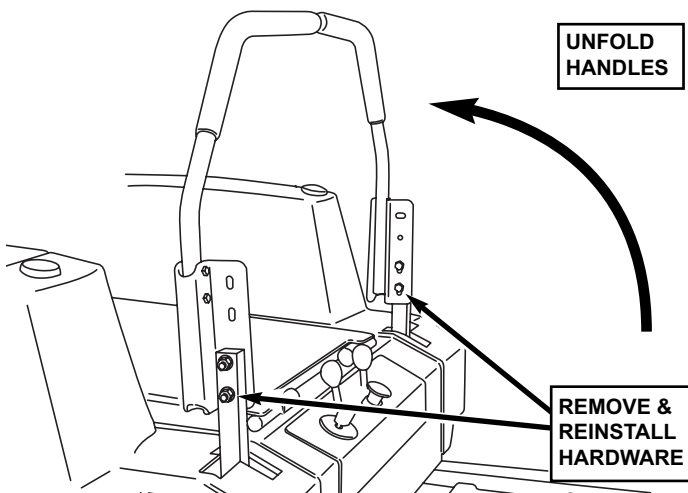

FIGURE 1
- B. Remove noted hardware from motion control lever blocks. See Figure 1.
- C. Unfold motion control lever handles, and secure with removed hardware. See Figure 1. Tighten all hardware securely.